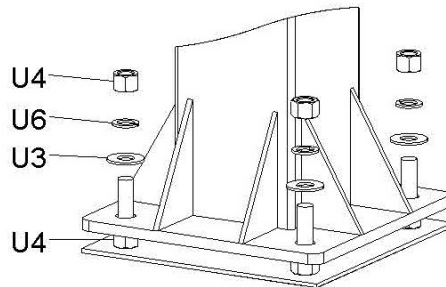
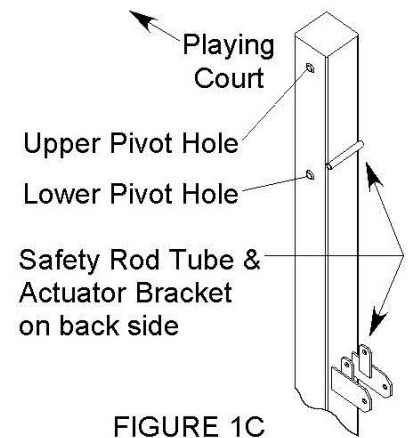

FIGURE 1B
FIGURE 1C
B. Place the Main Post (A) over the J-Bolts (see NOTE). Slide a Thick Washer (U3), a Lock washer (U6) and thread a Hex Nut (U4) to each J-bolt. Tighten the Nuts only a few turns onto the J-Bolts as shown in FIGURE 1B.
C. If the Main Post (A) is not exactly vertical, adjust the J-Bolt Hex Nuts (U4) located under the Post base. Tighten all of the Hex Nuts (U4) Above Post base when Main Post (A) is vertical.
**NOTE:** Face the Main Post (A) with Actuator Bracket facing away from playing court (as shown in FIGURE 1C).